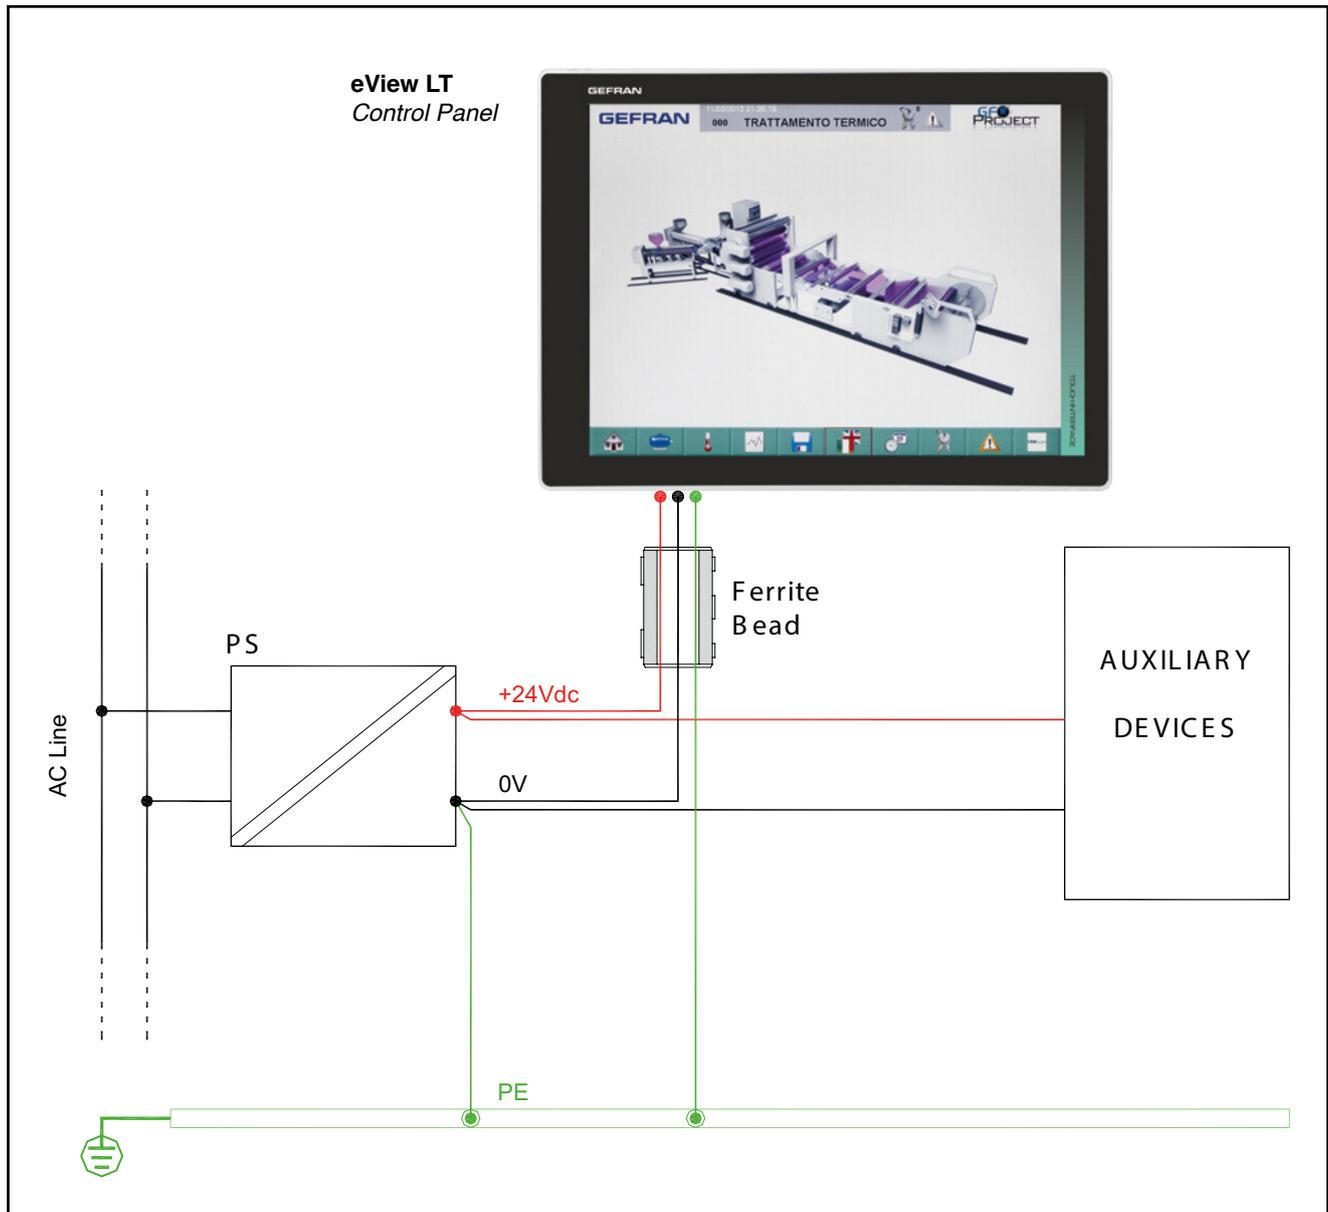

Figure 8: Single power supply
The system is powered with ONE (1) power supply as shown in figure 8.